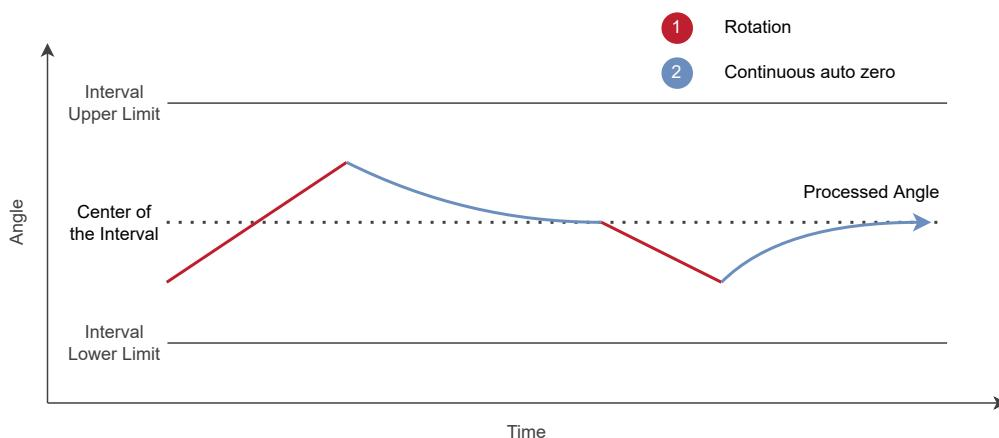

Figure 5.5: Continuous Auto-zero Behaviour
- › **Continuous:** The auto-zero filter will always be active and will cause the final angle to continuously move towards the center of the current interval. It is recommended to use a high **auto-zero beta** value to allow the final angle to move between intervals during slower rotations. This mode applies to devices without a mechanical ratchet, or with haptic ratchet effects. This behaviour can be viewed in Figure 5.5